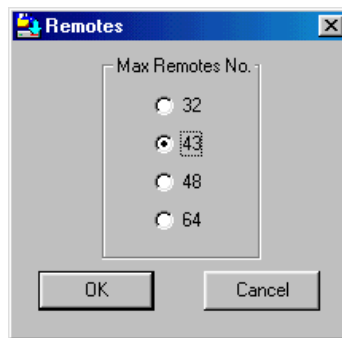

Figure 6-3 The Remotes box
1. From the **Options** menu choose **Remotes**. The Remotes box appears see Figure 6-3.